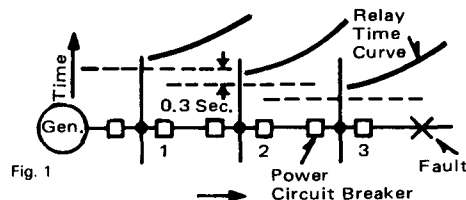

Fig. 1
**Selective Operation, Sequential Tripping:** To maintain maximum continuity of service, as small a section as possible should be removed from a system during a fault. A common method is to set each successive relay, progressing from the generator, to operate 0.3 second sooner (plus circuit breaker operating time) so that the relay nearest the fault will operate first to remove the faulted section. See figure 1.